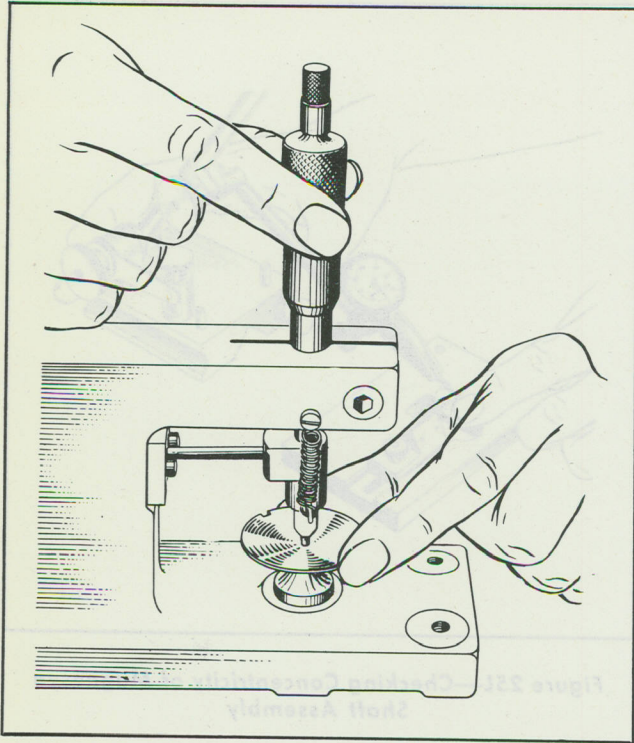

Figure 25N—Setting Pivot Jewels With Jewel and Bearing Setter, QE-10877-1
(b) Replace the Magnesyn case cover, making certain that the end of the shaft, to which the pointer will be attached, protrudes through the jewel (5) in the cover. The Magnesyn shaft assembly must have an end play of 0.002 to 0.005 inch. Adjust the jewels, using the jewel and bearing setter, QE-10877-1, to give this amount of end play. (See figure 25N.) Slide the insulating sleeving (7) over the four stator leads.